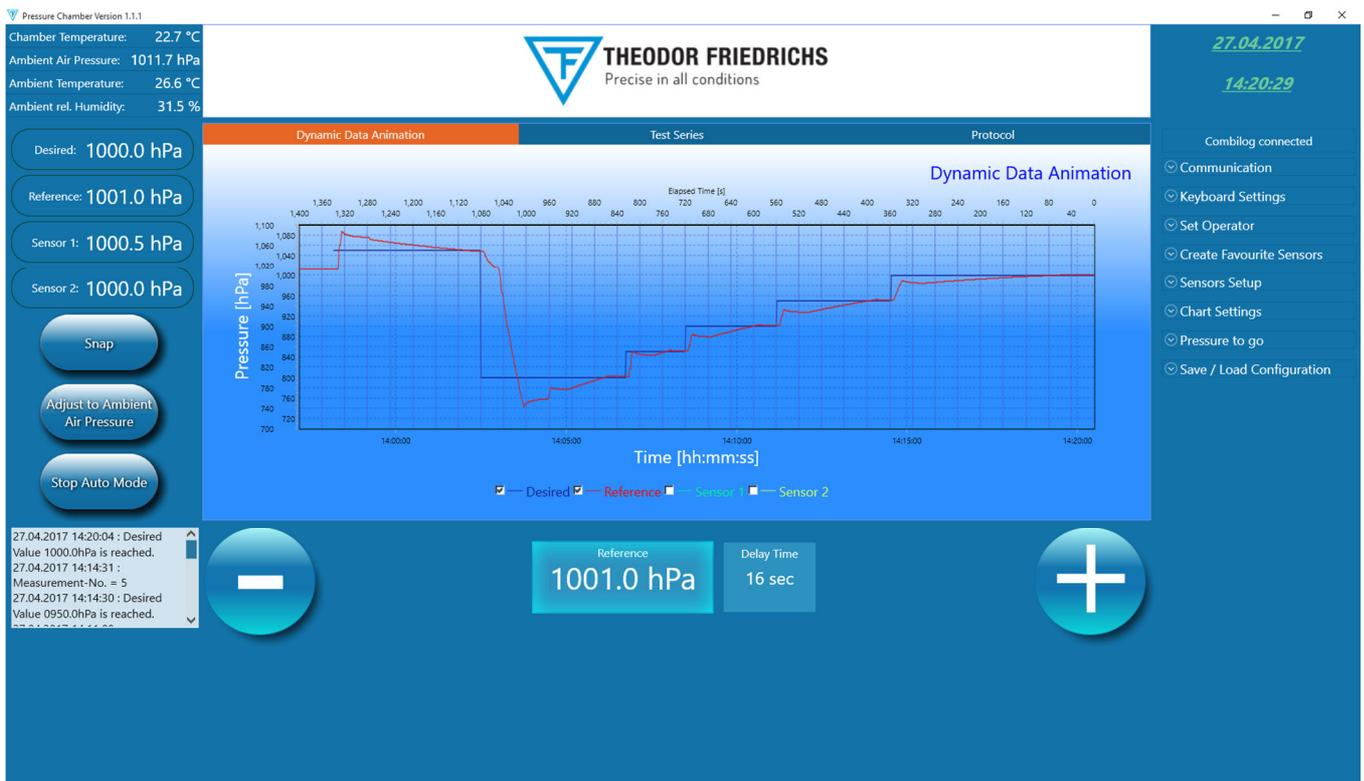

Figure 1: Main Screen
- a.) At the condition, that all valves are closed and the program works well, then hit the button on the left side of the Main Screen (see Figure 1) and wait until the Chamber Pressure which is displayed in the lower middle will be brighten. At this time the “Ambient Pressure” and the “Reference” which are displayed on the upper left side of the Main screen, should both have almost the same value (difference less than 3 hPa).
- b.) At the condition, that all valves are closed and the program works well, then hit the button and use the Manual controller. Push the middle button of the Manual Controller until the “Ambient Pressure” and the “Reference” which are displayed on the upper left side of the Main screen (see Figure 1), should both have almost the same value (difference less than 3 hPa).